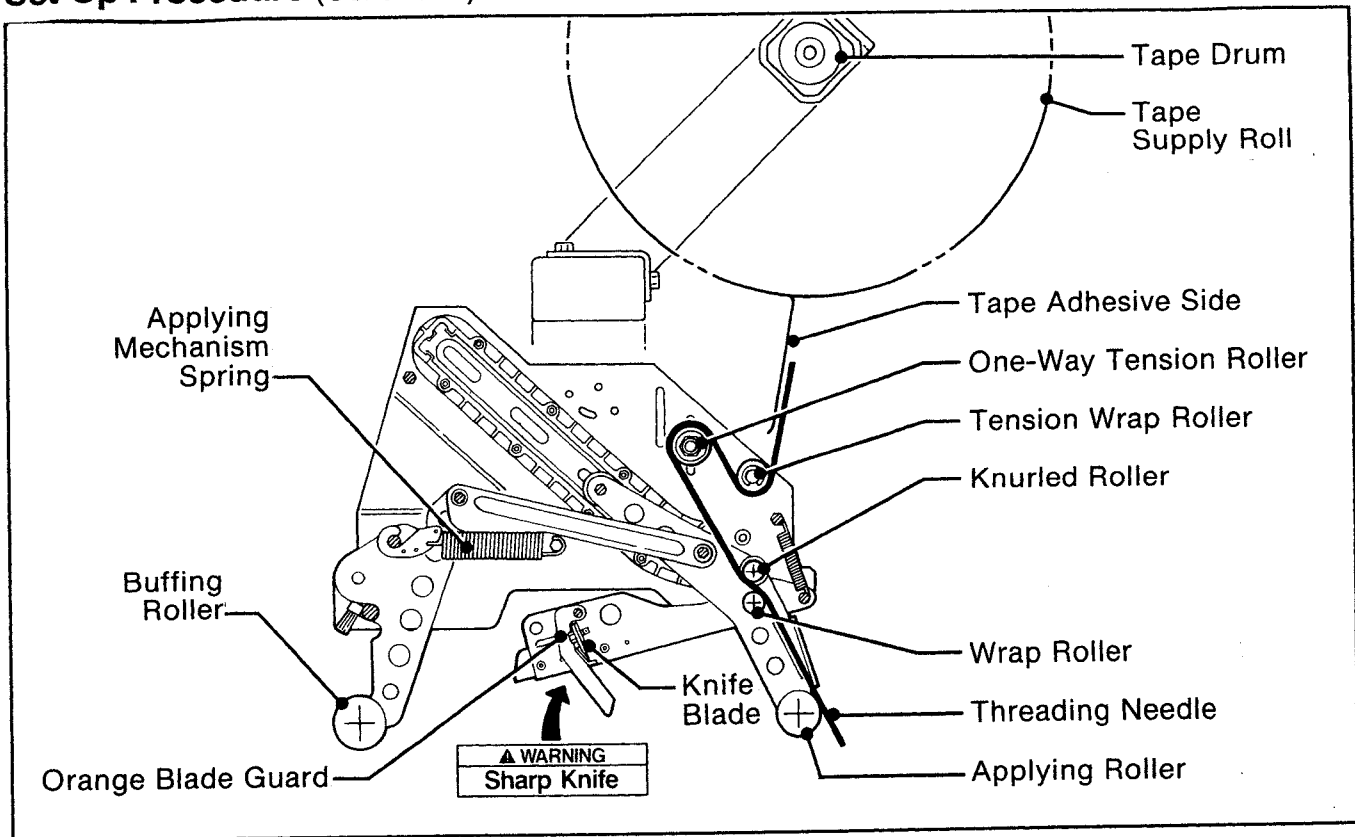

Figure 2-4 - Tape Threading Diagram, Upper Taping Head (Left Side View)
1. BOTH THE UPPER AND LOWER TAPING HEADS UTILIZE EXTREMELY SHARP KNIFE BLADES. THE BLADES ARE LOCATED UNDER THE ORANGE BLADE GUARD WHICH HAS THE "WARNING - SHARP KNIFE" LABEL. BEFORE WORKING WITH THE TAPING HEADS OR ATTEMPTING TO LOAD THE TAPE, REFER TO FIGURES 2-4 AND 2-5 AND IDENTIFY THE BLADE LOCATION. KEEP HANDS OUT OF THESE AREAS EXCEPT AS NECESSARY TO SERVICE THE TAPING HEADS.
The applying mechanism spring, shown in Figures 2-4 and 2-5, controls applying and buffing roller pressure on the box and returns the mechanism to the reset position. The spring pressure setting, as shown in Figure 3-3A, is for normal operation but is adjustable.